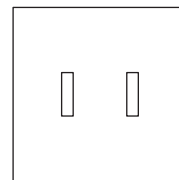

FIGURE P15.41 Old outlet.
15.41 (A)* There is an old outlet shown in Figure P15.41. Which of the following equipment cannot be connected to the old outlet?